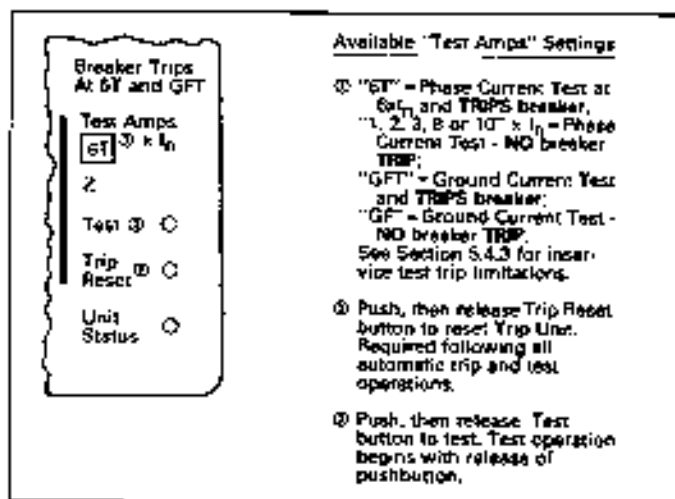

Fig. 5 Integral Test Panel (Lower Right Corner of Trip Unit)
1. Place the "Test Amps" selector switch (See Fig. 5) in one of the six "No Trip" test settings, i.e., 1, 2, 3, 8, or 10,  $\times I_n$ , or GF.
2. Place the "Test Amps" selector switch (See Fig. 5) in one of the two "Trip" test settings, i.e., 6T or GFT.
3. Depress the black "Test" pushbutton (See Fig. 5) and release it - the test is initiated when the pushbutton is released.
5. Reset the trip unit by depressing and releasing the "Trip Reset" pushbutton (See Fig. 5). All LEDs lighted by the "Trip" test action should turn "OFF".